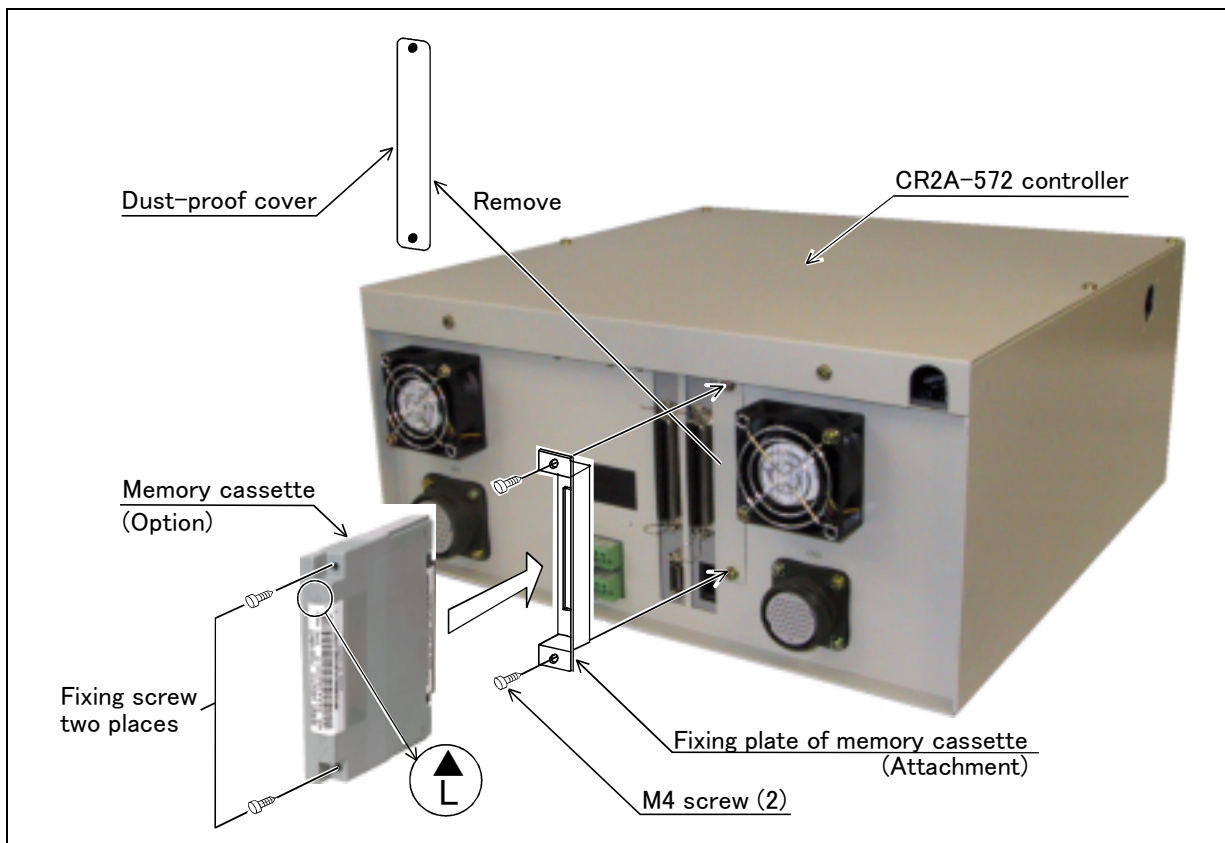

Fig.3-25 : Installation method of extension memory cassette
- As shown in Fig. 3-25, insert the memory cassette all the way to the back with the "▲" facing up.